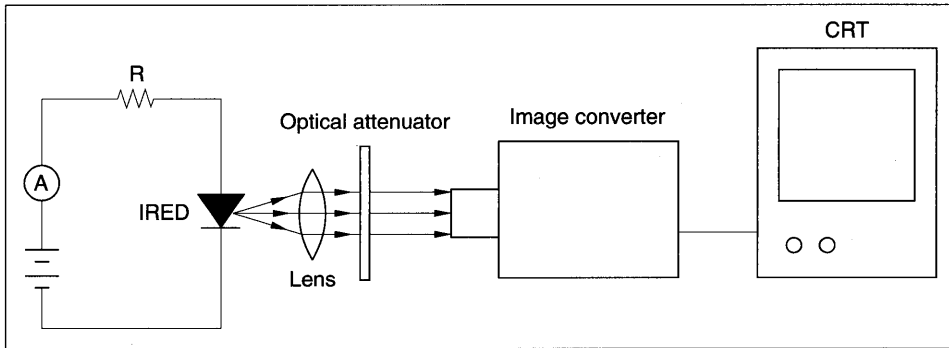

Figure 4-41: NFP Measuring Method
A NFP can be observed with an infrared camera by operating the IRED under continuous waves (CW) and collimating the emitted light to a parallel beam with a lens (see figure 4-41). The amount of incident light into the infrared camera should be controlled with an optical attenuator, since too much incident light causes halation.